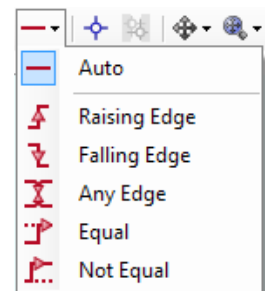

Figure 11: Trigger mode.
1. Select a trigger mode from the **Select triggers** pull-down menu (Figure 11):